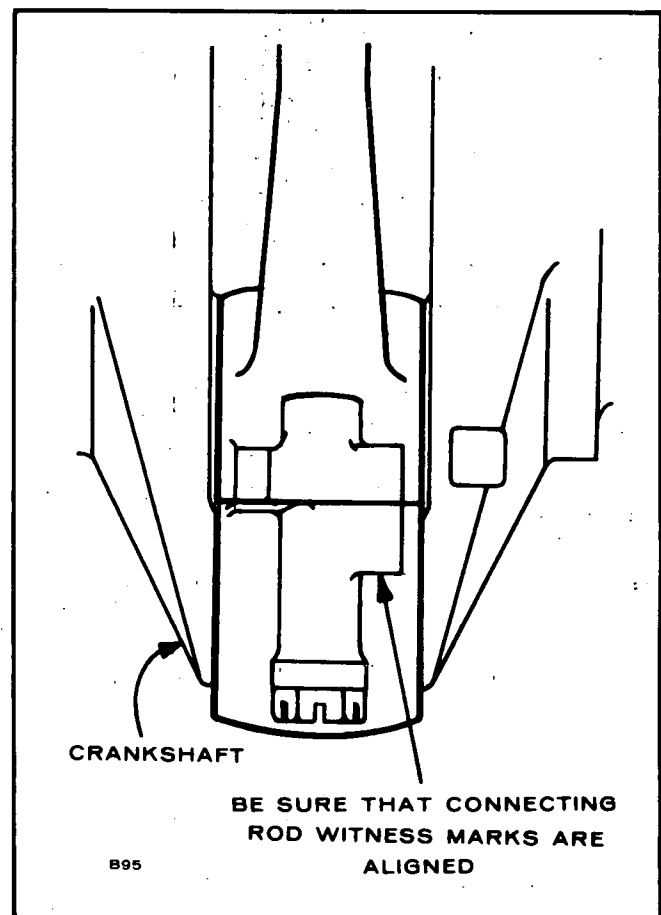

FIGURE 46. CONNECTING ROD CAP
5. Position the connecting rod on the camshaft, oil the journal and install its rod cap with bearing half. When installing the rod cap, position so the raised witness mark on the forging matches the mark on the connecting rod (Figure 46).